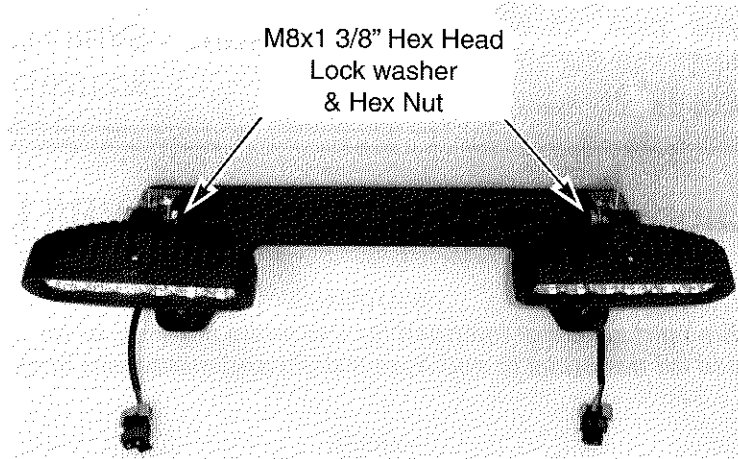

Figure 2. Attach Head lamp Assembly
3. Install the two (2) head lamps to the U-shape mounts and secure with two (2) M8x1 3/8" bolts, lockwashers and nuts provided. See Figure 2, page 2.